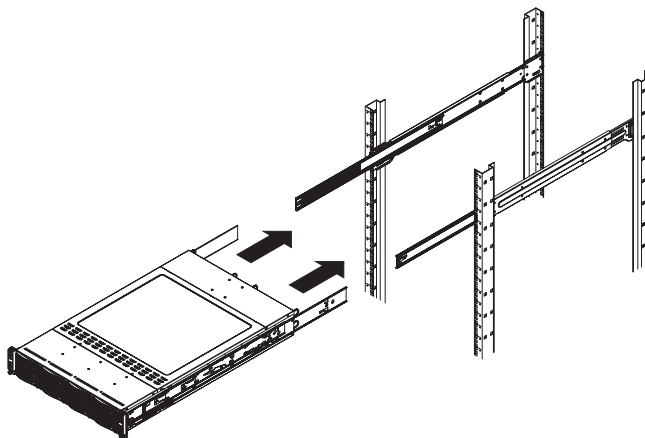

Figure 2-2 Installing the Server in a Rack
1. Extend the outer rails as shown in Figure 2-2.